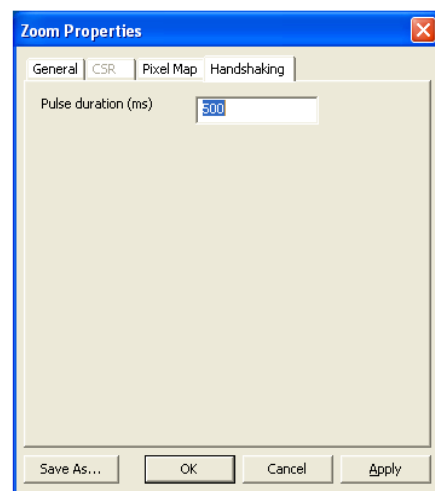

Figure 7.33. Pulse Duration
4. In the **Handshaking** tab, set the **Pulse Duration** to 500 (see Figure 7.33).